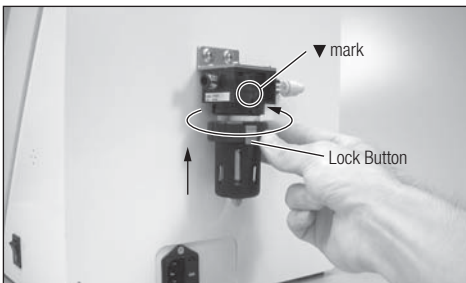

Fig. 33
- 8) Attach them to main body by putting Lock Button and groove of main body together. Push case supporter up so that there is no gap. Turn it right until Lock Button comes to the ▼ mark. (Fig. 33)